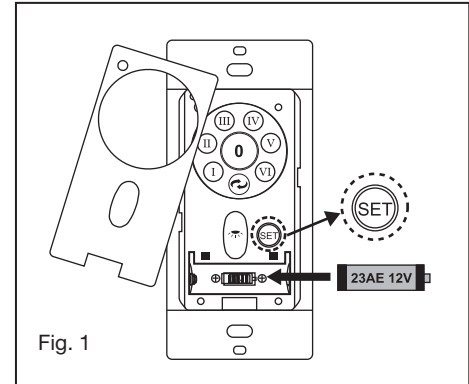

Fig. 1
- 1 Remove ball from downrod by loosening set screw in the side of the ball. Slide ball down and remove ball pin; remove ball. (Fig. 1)
- 1 Insert the receiver into the ceiling mounting bracket with the flat side of the receiver facing the ceiling. (Fig. 1) For best performance, make sure the Black Antenna, on the end of the receiver, remains extended and not tangled with any of the electrical wires.
- 1 Remove one of the three screws on the mounting hub located on the fan motor. Loosen the other 2 screws. (Do not remove) (Fig. 1)
- 1 Remove the existing wall plate and the old switch from the wall outlet box. (Fig. 1)
Follow the below steps to use the set button. (Fig. 1)